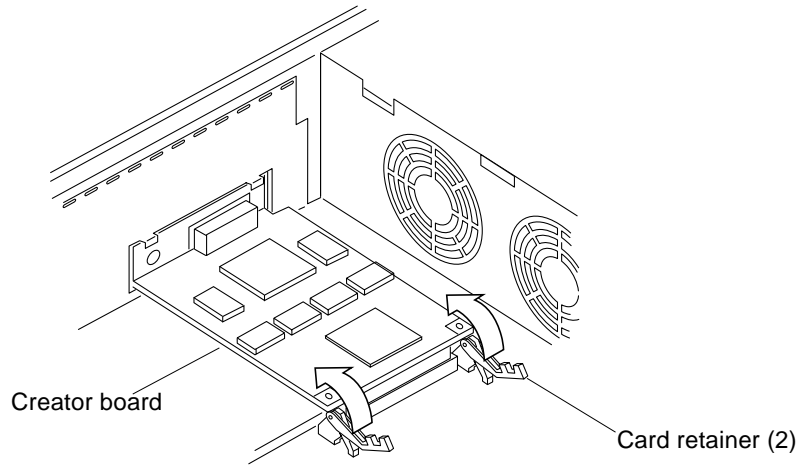

Figure 3-14 Securing the Creator Board into the Chassis
5. Push the card retainer onto the board (Figure 3-14).